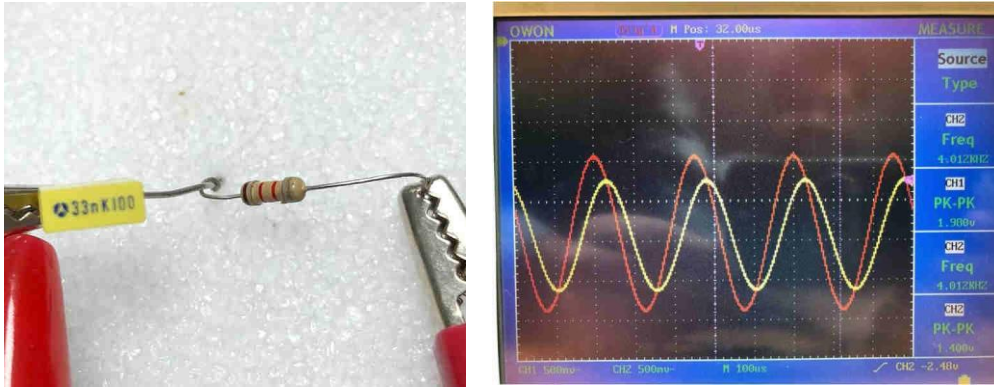

Figure 7: An Example of RC Filter.
Now, we set up a RC filter as in the Figure 7 ( $R = 1.2 \text{ k}\Omega$ ). Then using function generator we give a sine wave at 2V peak-to-peak value as  $V_{in}$  and it is shown by red color wave (CH1) in the Figure 7. Using an oscilloscope, we measure the  $V_{out}$  value that is shown by yellow color (CH2). We would like to estimate the cut of frequency where  $V_{out}$  and  $V_{in}$  satisfy the equation (3). To do this we change the frequency of the function generator until we obtain  $V_{out} = 1.4 \text{ V}$  [see equation (3)]. Finally, we find desired C value as 33 nH.